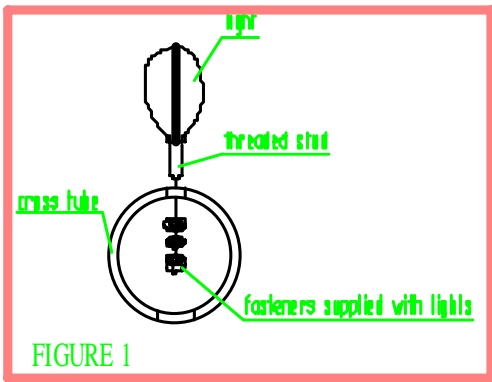

FIGURE 1
STEP 2. Cut out templates. Mark centerline of lower air dam by locating the series of small fins on backside of air dam. Lines should be 8" long. Measure and mark a line 17 1/2" from center line. DO NOT follow contour of air dam. Make several marks from separate measurements using the center line to create profile. SEE FIGURE 1.
STEP 3. Align templates with air dam. The "REAR OF AIR VALANCE" line aligns with bottom rear portion of air dam and the "CENTER LINE" line aligns with the 17 1/2" marks created. Tape template to air dam and trace outline. Using desired method, cut along outline. A additional trimming or adjustment to air dam may be necessary. Replace lower air dam. SEE FIGURE 1.